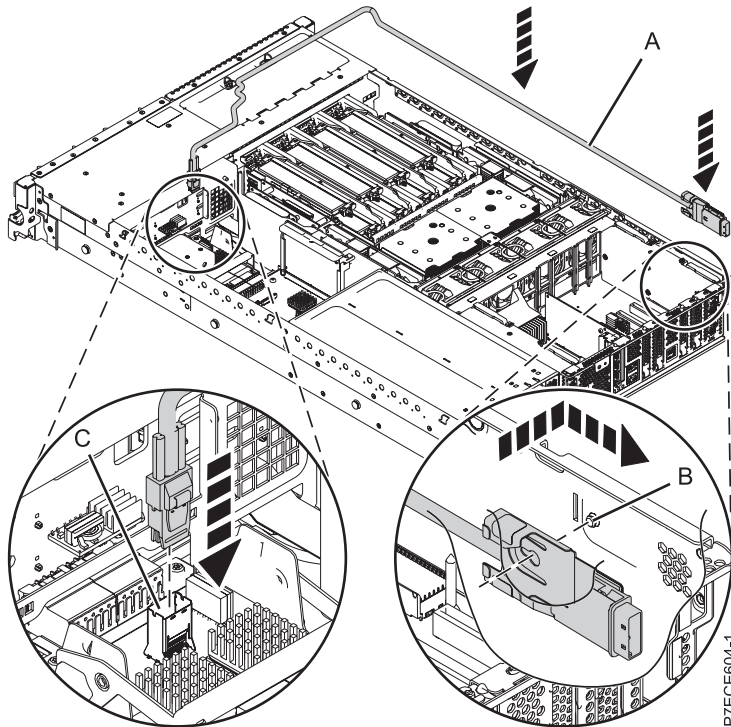

Figure 30. Replacing the SAS cable
3. Connect the mini-SAS connector of the SAS cable to the internal SAS connection port (C) on the storage interposer until it snaps in place. See Figure 30 on page 52.
4. Route the cable (A) in front of the memory riser cage, and along the channel in the side wall until the SAS port connector is near the opening on the rear of the chassis.
5. Align and guide the slot in the bracket of the SAS port connector (B) over the guide pin in the chassis. Then slide the SAS port connector into the opening on the rear of the chassis until the tab on the bracket snaps in place.